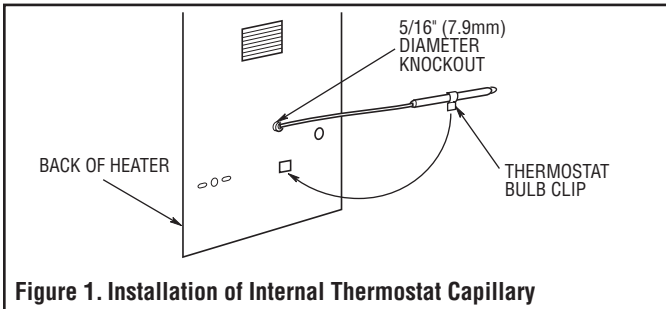

Figure 1. Installation of Internal Thermostat Capillary
1. Remove 5/16" (7.9mm) knockout from back of heater and route capillary tube through hole (Figure 1).
3. Remove 5/16" (7.9mm) knockout from back of heater and route capillary tube through hole (See Figure 1).